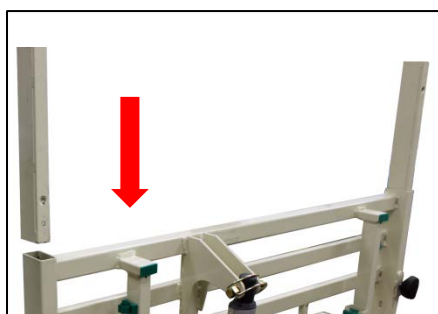

Figure 7: Foot section attachment to bed end
10. Slide the sliders into the end of the head platform section (figure 7) and secure with a hand screw, repeat on other side.